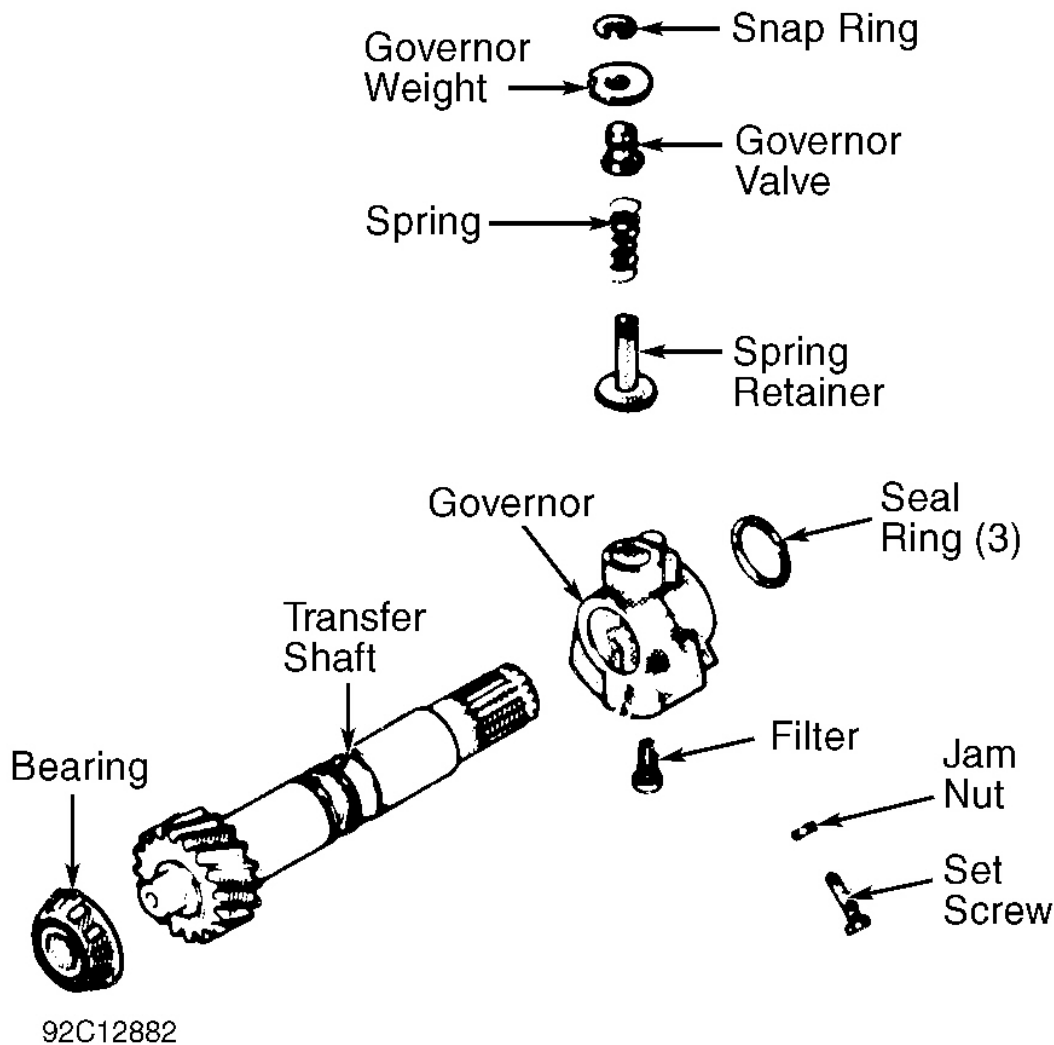

Fig. 16: Exploded View of Transfer Shaft & Governor (F3A20 Series)
1. Remove seal rings from transfer shaft. Loosen governor set screw and remove governor assembly. Remove snap ring and disassemble governor. See **Fig. 16**.